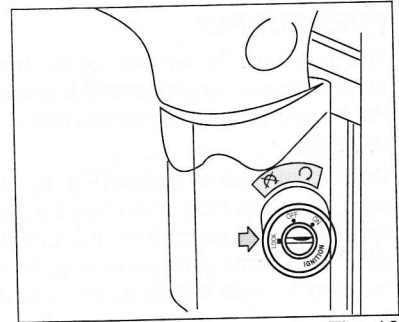

Fig. 10
**Locking the Handlebar:** First turn the handlebar to the extreme left and then turn the key anti-clockwise to lock position. Pull out the key after locking (Fig.10).